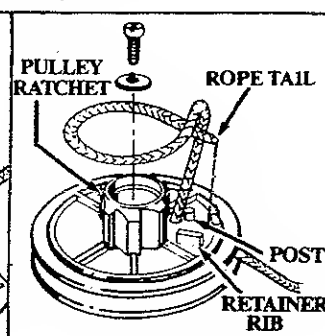

Figure 26
16. Wrap rope counterclockwise ↶ around pulley ratchet and tuck loose end back under rope where it comes out of hole. Leave a 1/4 to 1/2 inch tail laying flat on the top of the pulley alongside the retainer rib and between the rib and post. The rope tail *must not* extend beyond the edge of the pulley. Figure 26.